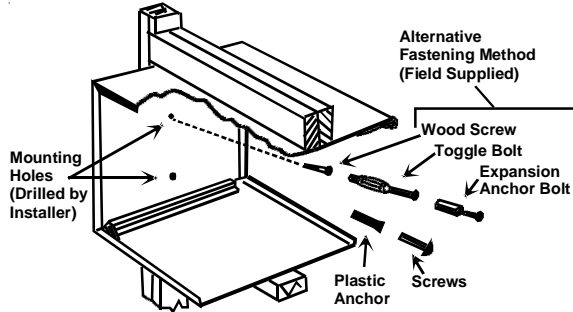

Figure 6
- Attach the sleeve using four #12x2" wood screws (for wood constructed buildings) or four #12x2" masonry screws (for cement or brick constructed buildings) (Figure 6). Make sure the wall construction is adequate to support the unit.
5. Drill two holes in both sides of the wall sleeve so mounting screws can be secured to wall supports. See Figure 6 for location of screw holes. **DO NOT DRILL THROUGH BOTTOM OF SLEEVE.**